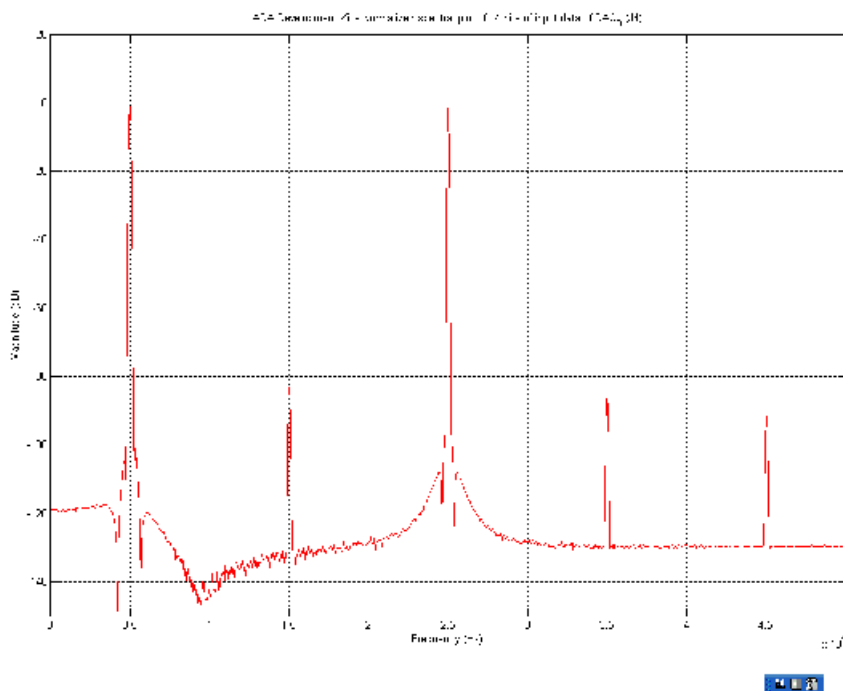
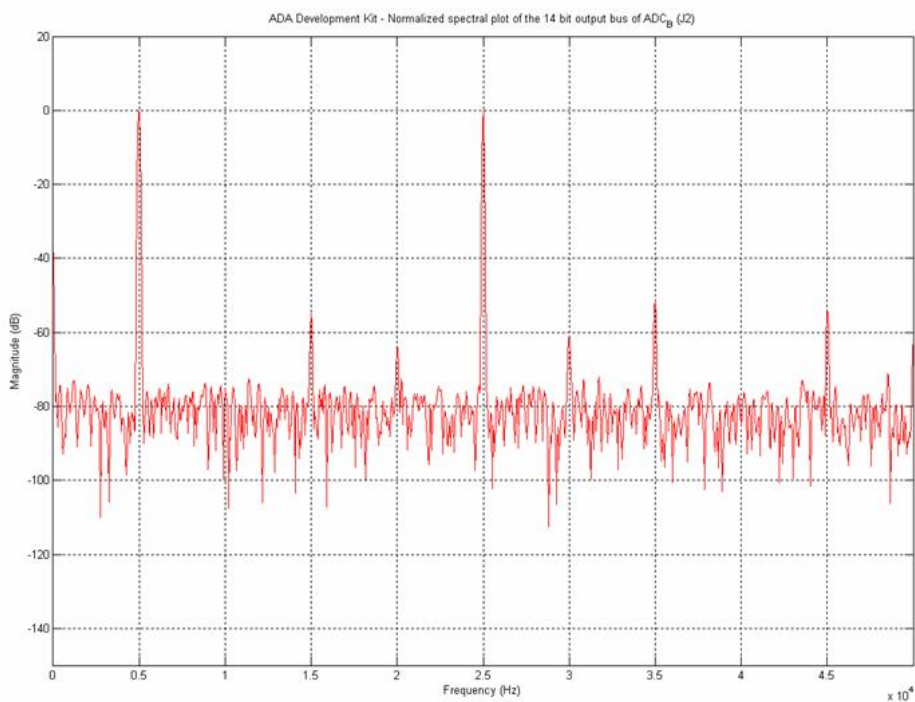

Figure 4-6 Normalized Spectral Plot of The 14-bit DAC B Input Data
Figure 4-7 Normalized Spectral Plot of The 14-bit ADC B Output Data
4. Type `nstp_plot('stp1_auto_signaltap_0.txt')` at the MATLAB command prompt. The MATLAB will display normalized FFT plots of DAC B input and ADC B output similar to **Figure 4-6** and **Figure 4-7**, respectively.